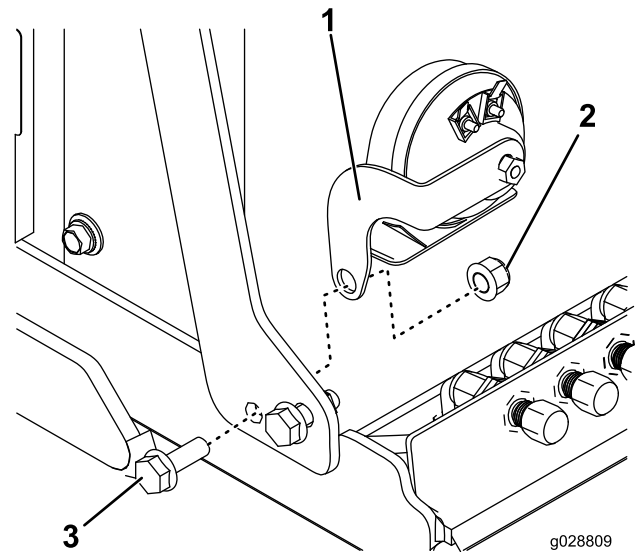

Figure 6
4. Remove the forward bolt from the existing bracket, and use it to install the mounting bracket (Figure 6).